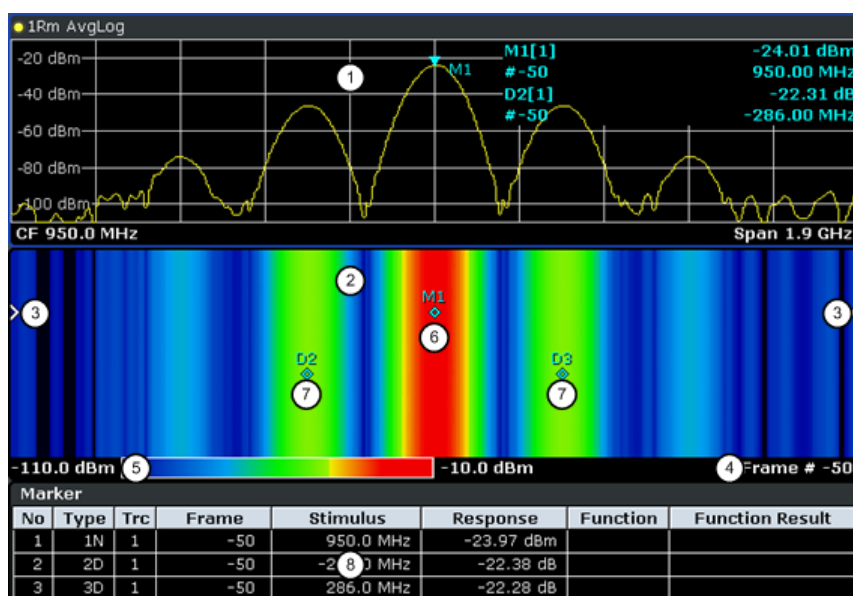

Figure 11-20: Screen layout of the spectrogram result display
- Spectrum Analyzer result display (1 in Figure 11-20)